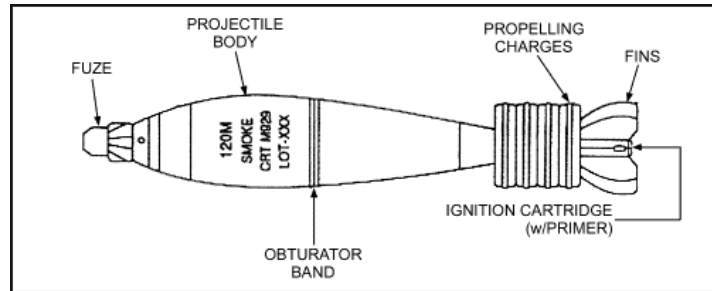

Figure 7-14. M929 smoke cartridge.
- (1) Type and use: High explosive fragmentation and blast.
- (2) Identification: Olive drab with yellow markings.
- (3) Components: M745 PD fuze; M230 propelling charge.
- (4) Maximum range: 7,200 meters at charge 4.
- (5) Minimum range: 200 meters at charge 0.
f. **M929 Smoke Cartridge** (Figure 7-14).